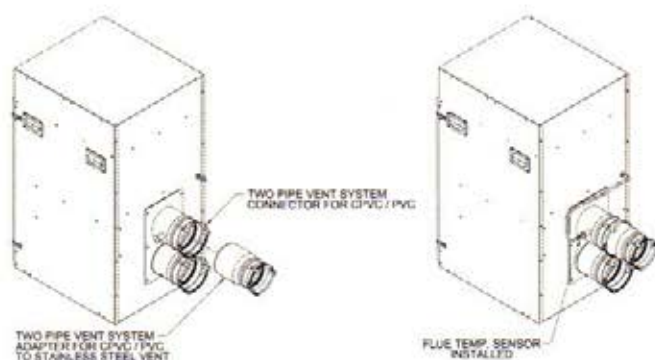

Figure 16: Field Installation of Two-Pipe Vent System Adapter for Stainless Steel
- a. Push the stainless steel vent adapter onto the CPVC/PVC connector with a slight twisting motion. Make sure that the stainless steel vent adapter is inserted at least 1" (refer to Figure 16).